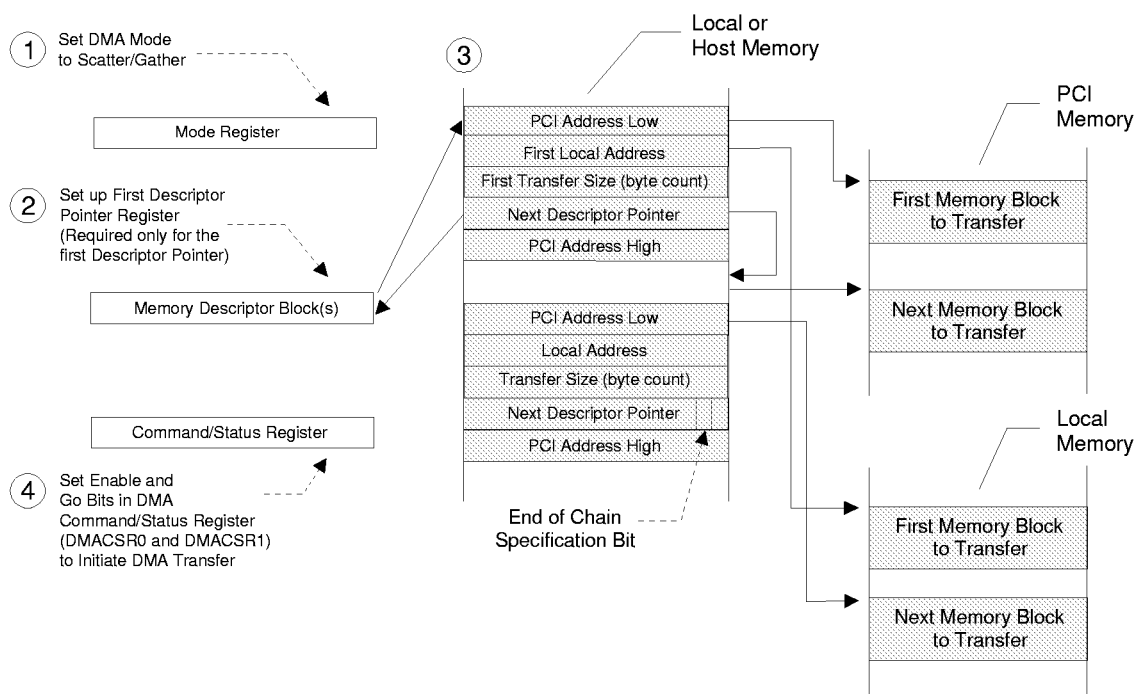

Figure 5-17. Scatter/Gather DMA Mode Descriptor Initialization [DAC PCI Address (DMAMODE0[18], DMAMODE1[18]) Descriptor Dependent] (PCI Address High Added)
- DMADAC0 and/or DMADAC1 contain(s) an 0x00000000 value. DMAMODE0[18] and/or DMAMODE1[18] is set to 1. The PCI 9054 performs a SAC five-Lword descriptor block load from PCI memory and DMA transfer with PCI DAC on the PCI Bus. (Refer to Figure 5-17.)
- DMADAC0 and/or DMADAC1 contain(s) a non-zero value. DMAMODE0[18] and/or DMAMODE1[18] is set to 1. The PCI 9054 performs a SAC five-Lword descriptor block load from PCI memory and DMA transfer with DAC on the PCI Bus. The fifth descriptor overwrites the value of the DMADAC0 and/or DMADAC1 register. (Refer to Figure 5-17.)